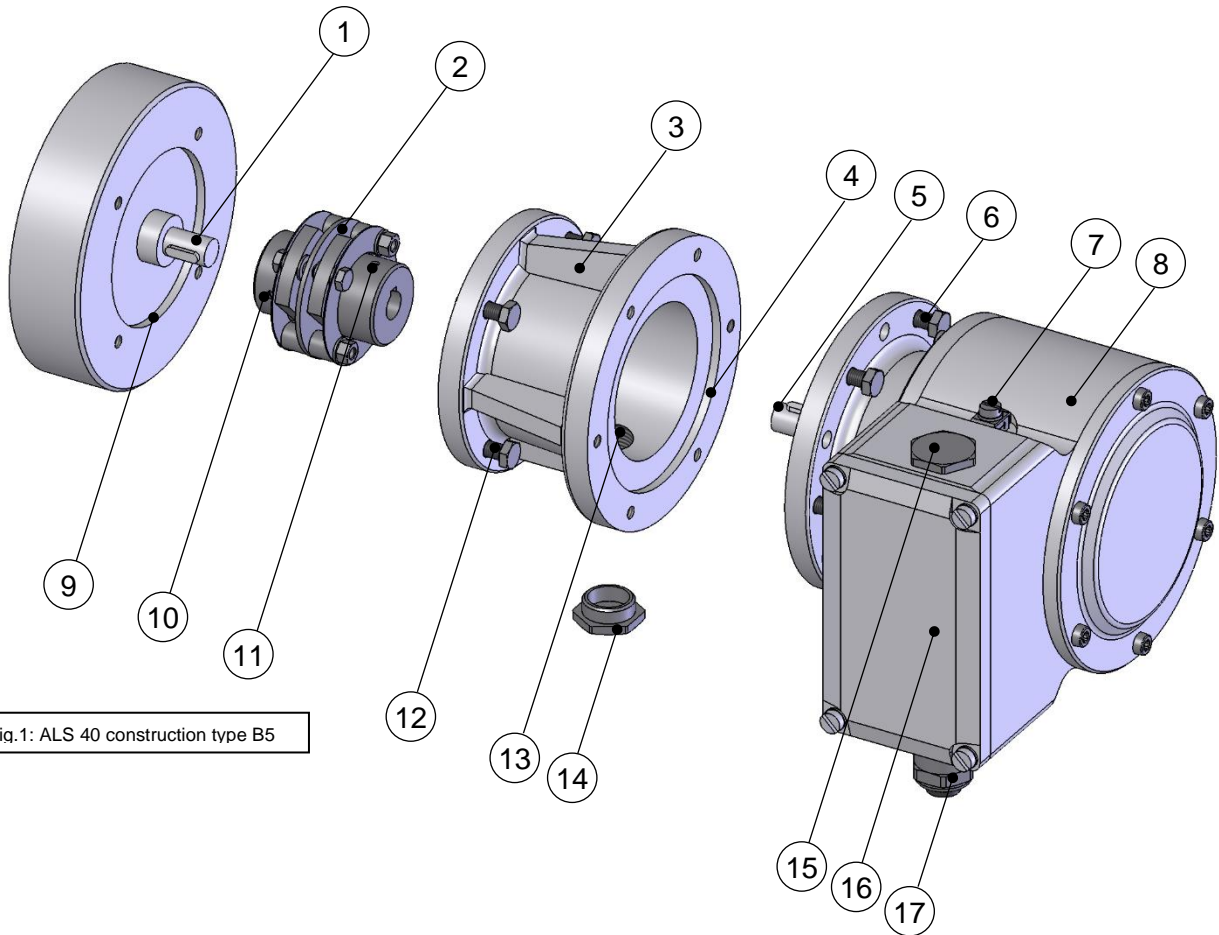

Fig.1: ALS 40 construction type B5
1. Open the terminal box cover (16 Fig. 1).
2. Remove the cap of the cable gland (17 Fig.1).
- Secure earth cable to earth terminal (7, Fig.1).